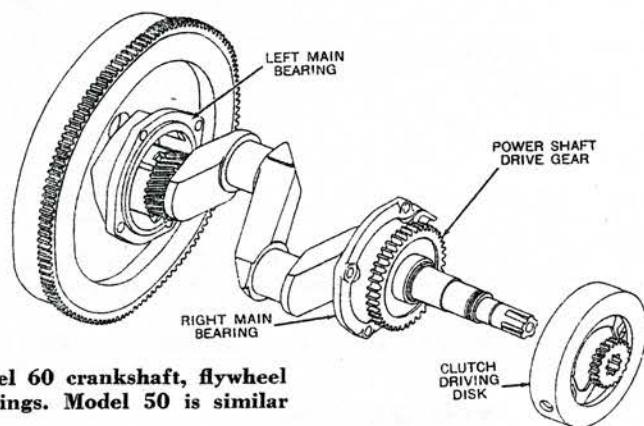

Fig. 13A Model 60 crankshaft, flywheel and main bearings. Model 50 is similar
**MODELS 50, 60**—The crankshaft, Fig. 13A, is mounted cross-wise in a one-piece case, and is carried in two main bearing housings with aluminum alloy bearing inserts. The right main bearing housing contains two single oil seals installed back to back to prevent mixing transmission oil in the first reduction gear cover with engine oil. An oil seal and oil slinger control the oil flow at the left main bearing, directing it back to the crankcase.